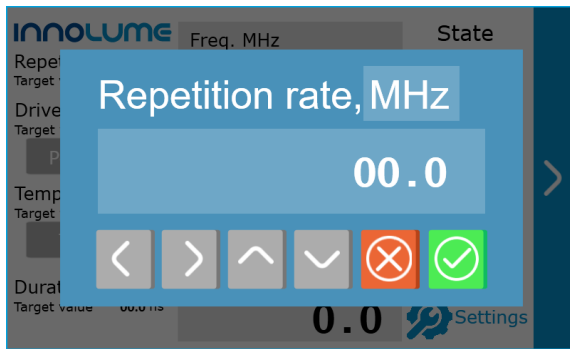

Figure 29 – Setting the repetition rate
7. Tap on repetition rate value to set the pulse train repetition rate (fig. 29). Select the frequency range (Hz, kHz or MHz), then use the left and right arrows to select the digit to change, use the up and down arrows to change the value. Press  button to save the changes and exit menu. Press  button to exit menu without changes.